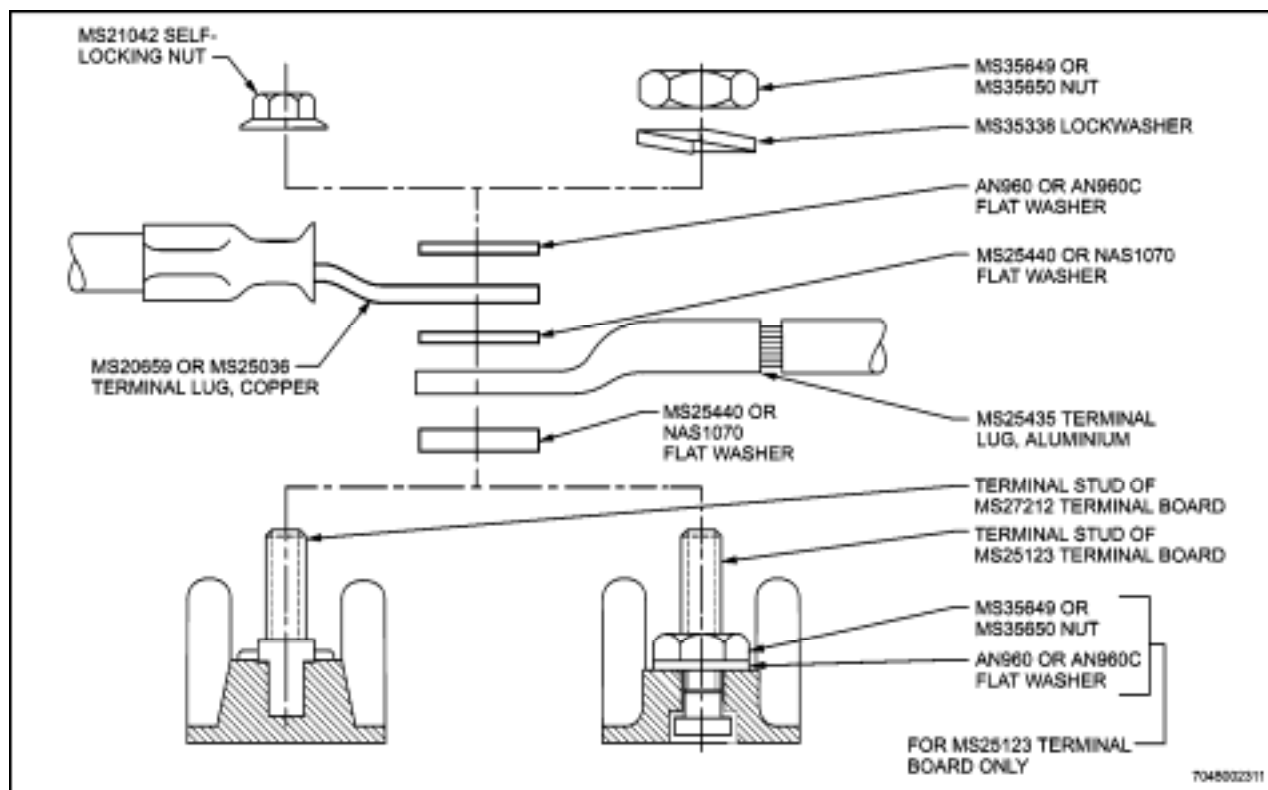

Figure 4-20 Hardware for Wiring Terminal Boards With Combination of Terminals
64. To join a copper terminal lug to an aluminium terminal lug, place a MS25440 or NAS1070 flat washer over the nut that holds the stud in place. Follow with the aluminium terminal lug, another MS25440 washer, the copper terminal lug, AN960 or AN960C plain washer, MS35338 split steel lockwasher, and MS35649 or MS35650 plain nut or MS21042 self-locking nut. See Figure 4-20 for details.